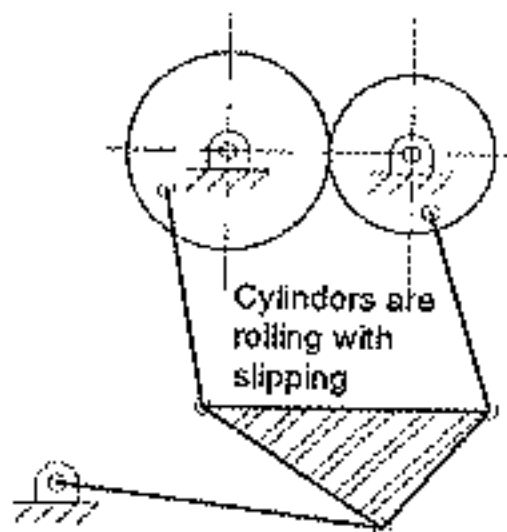

Figure 1
- Determine the number of links, number of lower pairs, number of higher pairs and calculate the degree of freedom of the planar mechanism shown in Fig. 1.